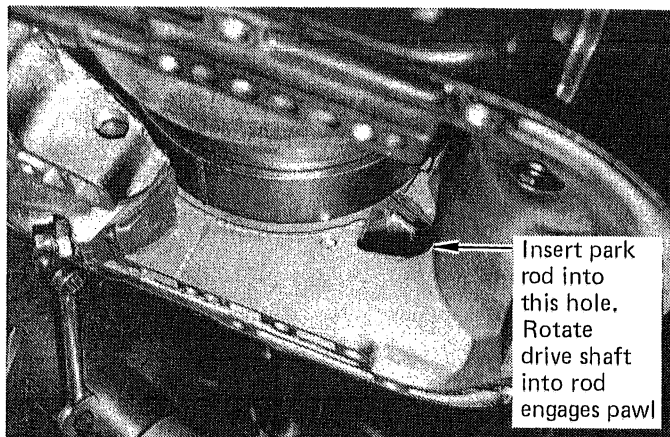

FIGURE 11
STEP 15. Guide the valve body up into the transmission. Insert the park rod into the hole in the rear of the case first and rotate drive shaft until the rod engages the pawl. (See Fig. 11) Align valve body with case and install valve body against case. (Be careful not to damage neutral safety switch. A small screwdriver can be used to retract the switch out of the way during installation.)